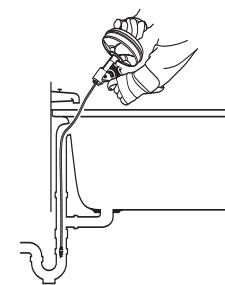

Figure 4
- Bathtub overflow: Remove overflow plate and internal mechanism (Figure 4).